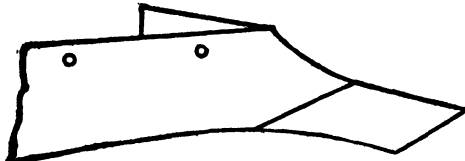

FIG. 82. Point bent over and ready for final weld.
10. While the point is still a bright red turn it upside down on the face of the anvil and have the helper hold the sledge on the end of the share directly over the anvil, and with a hammer bend the end of the point over the edge of the anvil. Make this bend a distance from the point of the share that will give the point the desired additional length. After making a right angle bend, flux the top of the share and bend the point down flat on the share. Hammer on the top of the new point until it lies flat on the share and its edge coincides exactly with the edge of the bar. Fig. 82.